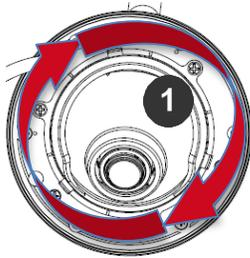

Figure 19: Make adjustments and re-tighten the screws
4. Adjust the pan, tilt, and z-axis as required and re-tighten the screws (Figure 19).